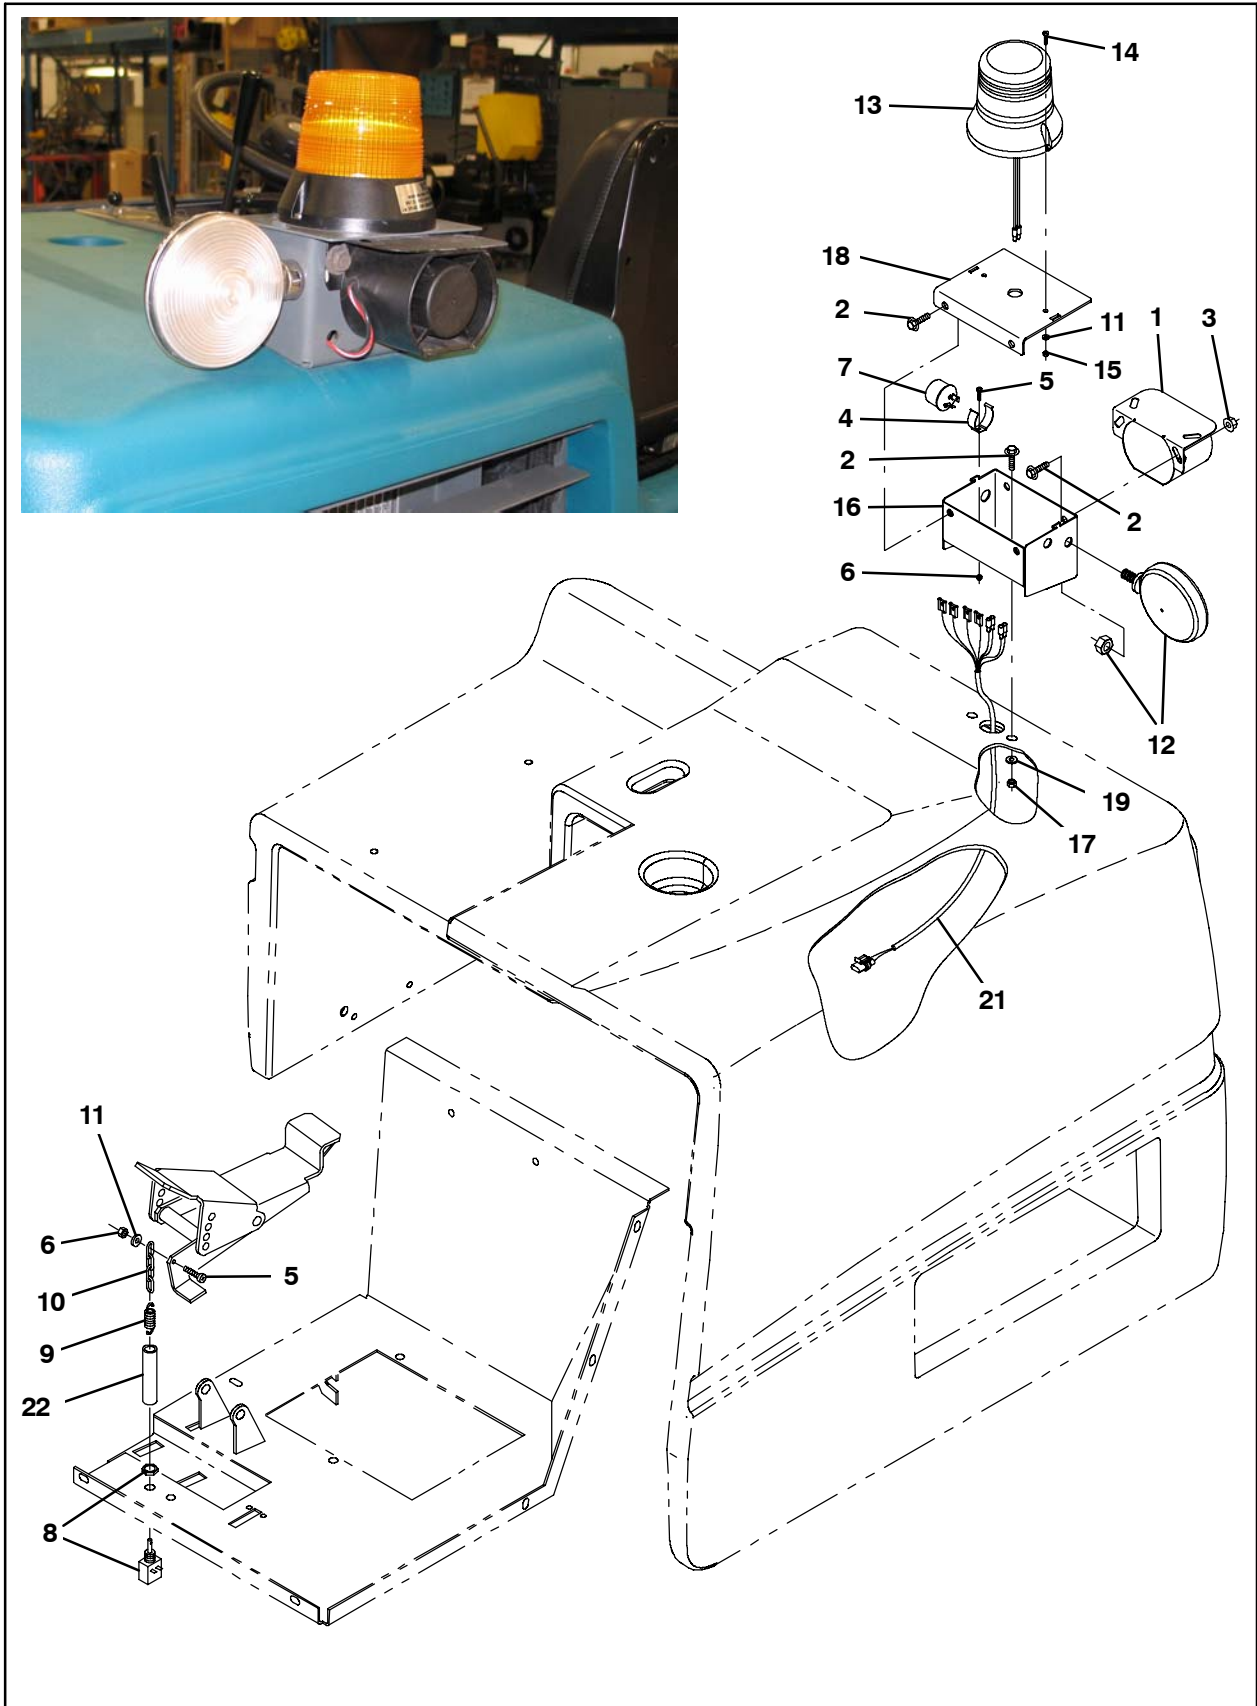

FIG. 12
13. Route the alarm / strobe harness (21) through the 1.25" hole in the main shroud and into the alarm bracket (16). Refer to Fig. 12.